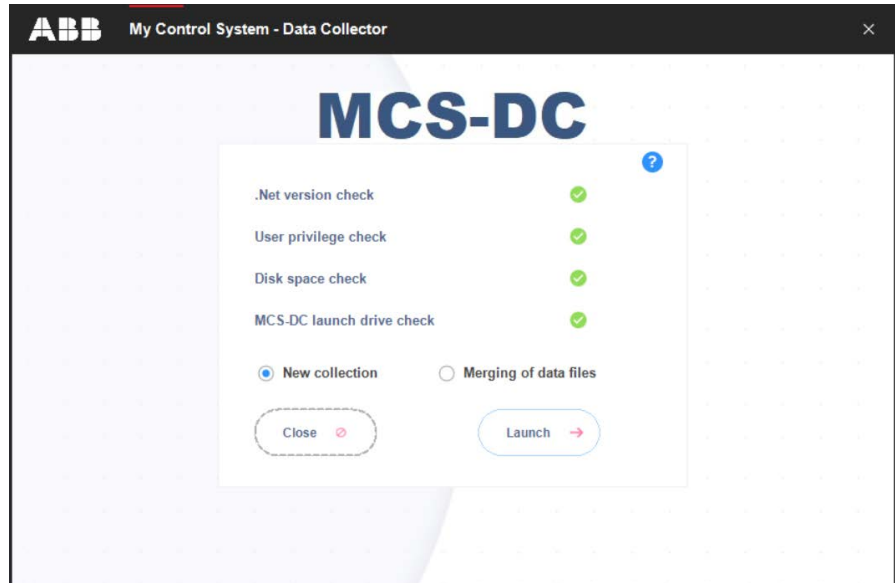

Figure 68. MCS-DC Launcher
2. Double-click on the **MCS-DC_Launcher.exe**, to launch the tool. It is present inside the unzipped MCS-DC folder. The initial screen appears as shown in Figure 68. MCS-DC tool runs the below checks on the launch node. The Green tick marks refer to successful checks, click on the **Launch** button to proceed with data collection. If the check fails, a Red cross mark will indicate the same. User must fix the issue and re-launch the MCS-DC tool.